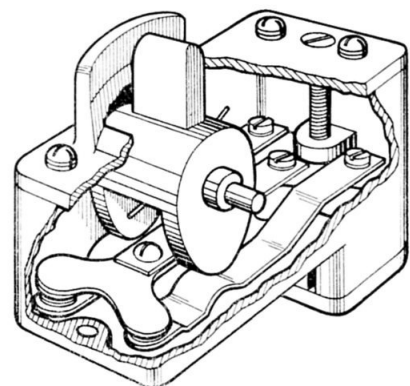

Fig. 2. Interior view
3. The switch lever (fig. 2) is moulded from insulating material and has two lugs on its underside which act as cams to operate the switch contacts. Passing through the lever and acting as a pivot, is a metal spindle upon which is carried a spring. The ends of the spring extend outwards and upwards to bear on the underside of the lid of the switch. This spring ensures that the switch lever is returned to its central position when the switch is not being used to control ignition.